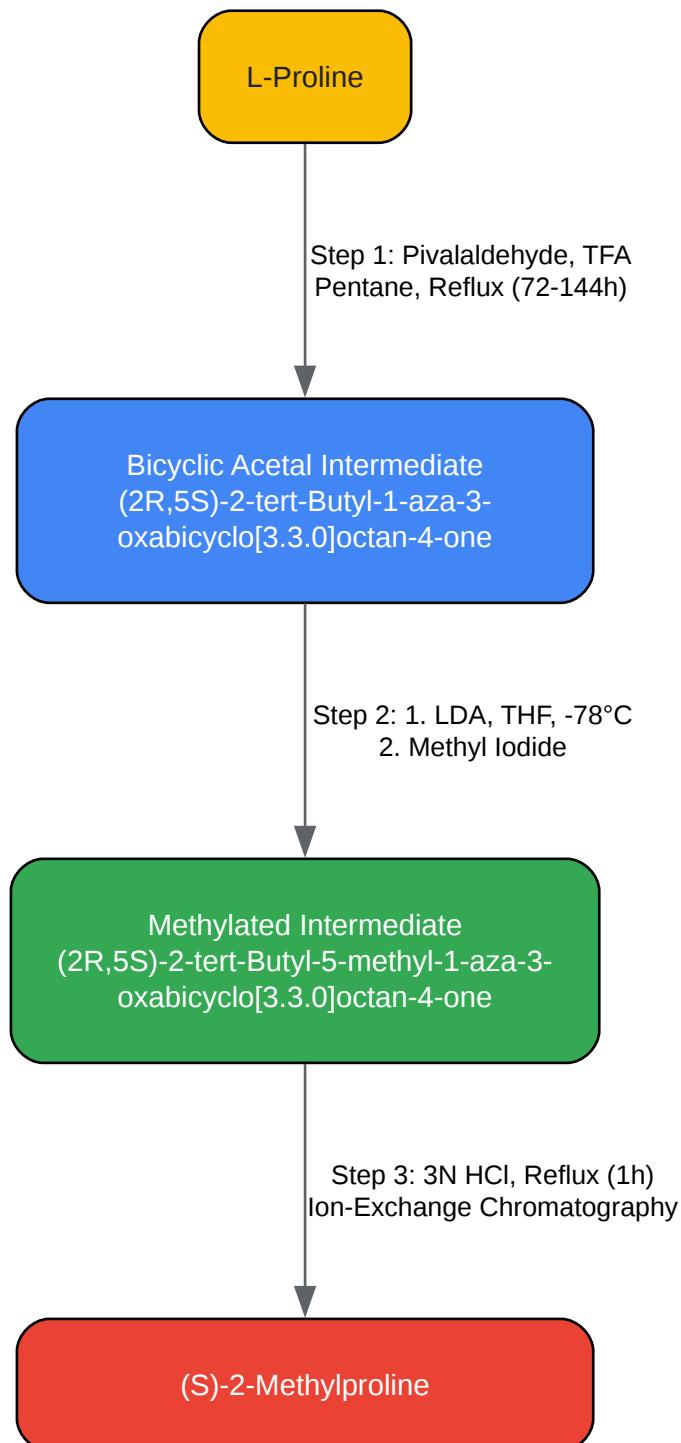

Figure 1. Overall Synthetic Workflow
Caption: Figure 1. Three-step synthesis of (S)-2-Methylproline from L-proline.